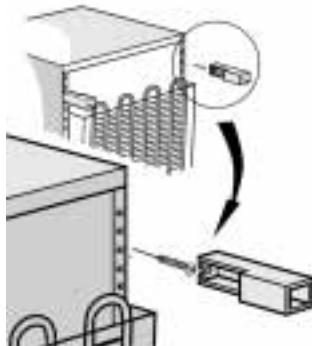

Fig. 1
- Fit the accessories supplied (Fig. 1 and 2).